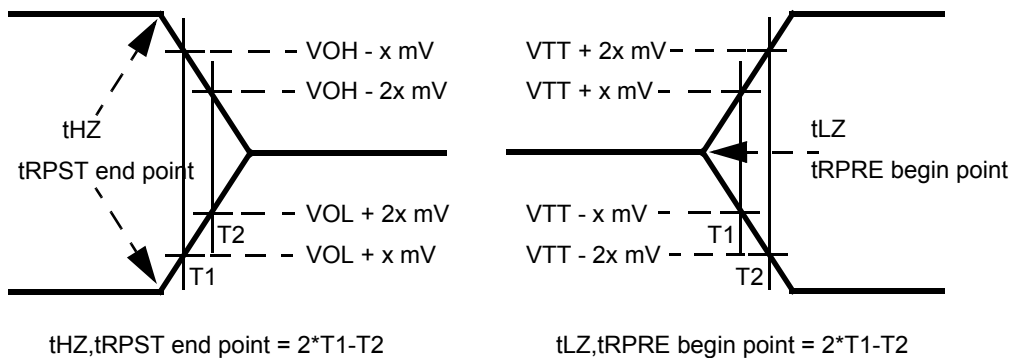

Figure 13 - Method for calculating transitions and endpoints
15. tHZ and tLZ transitions occur in the same access time as valid data transitions. These parameters are referenced to a specific voltage level which specifies when the device output is no longer driving (tHZ), or begins driving (tLZ). Figure 13 shows a method to calculate the point when device is no longer driving (tHZ), or begins driving (tLZ) by measuring the signal at two different voltages. The actual voltage measurement points are not critical as long as the calculation is consistent. tLZ(DQ) refers to tLZ of the DQ $\bar{\text{Q}}$ s and tLZ(DQS) refers to tLZ of the (U/L/R)DQS and  $\overline{\text{(U/L/R)DQS}}$  each treated as single-ended signal.
16. tRPST end point and tRPRE begin point are not referenced to a specific voltage level but specify when the device output is no longer driving (tRPST), or begins driving (tRPRE). Figure 13 shows a method to calculate these points when the device is no longer driving (tRPST), or begins driving (tRPRE) by measuring the signal at two different voltages. The actual voltage measurement points are not critical as long as the calculation is consistent.